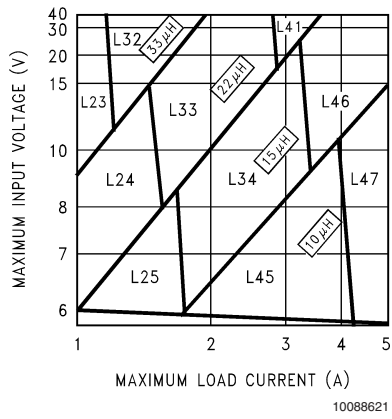
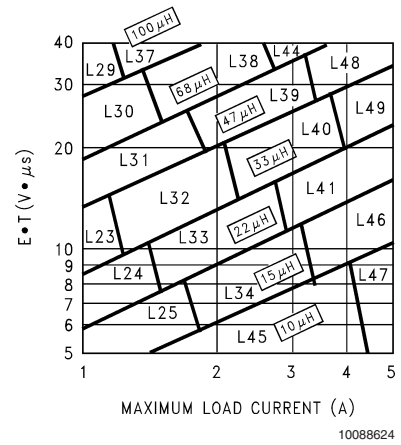

FIGURE 3. LM2678-3.3
FIGURE 6. LM2678-ADJ
Step 3: Determine the inductor required by using one of the four nomographs, *Figure 3* through *Figure 6*. Table 1 provides a specific manufacturer and part number for the inductor.
Step 5: Determine an input capacitor from Table 4 for fixed output voltage applications. Use Table 2 to find the specific capacitor type. For adjustable output circuits select a capacitor from Table 2 with a sufficient working voltage (WV) rating greater than $V_{in\ max}$, and an rms current rating greater than one-half the maximum load current (2 or more capacitors in parallel may be required).
Step 3: Use the nomograph for the 3.3V device, *Figure 3*. The intersection of the 16V horizontal line ($V_{in\ max}$) and the 4A vertical line ($I_{load\ max}$) indicates that L46, a 15 μ H inductor, is required.
Step 3: To use the nomograph for the adjustable device, *Figure 6*, requires a calculation of the inductor Volt \cdot microsecond constant ($E \cdot T$ expressed in $V \cdot \mu s$) from the following formula:
Using *Figure 6*, the intersection of 27V•μS horizontally and the 3.5A vertical line ($I_{load\ max}$) indicates that L48, a 47μH inductor, or L49, a 33μH inductor could be used. Either inductor will be suitable, but for this example selecting the larger inductance will result in lower ripple current.
Important Note: When using the adjustable device in low voltage applications (less than 3V output), if the nomograph, *Figure 6*, selects an inductance of 22μH or less, Table 6 does not provide an output capacitor solution. With these conditions the number of output capacitors required for stable operation becomes impractical. It is recommended to use either a 33μH or 47μH inductor and the output capacitors from Table 6.